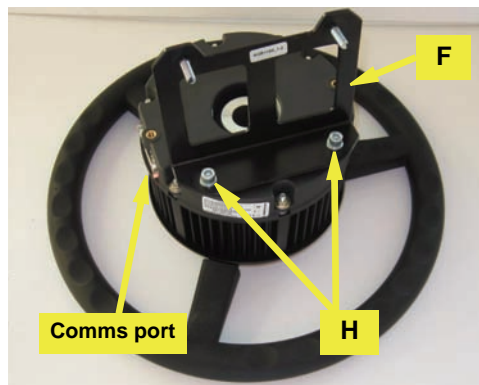

Figure 2d: Installing the upper anti-rotational bracket. See Warning.
- d. Using hardware **H**, loosely attach upper anti-rotational (a/r) bracket **F** to the base of the steering unit. The screws thread into the inserts in the bottom of the unit. Leave the screws loose. Mount the bracket so that with the steering wheel assembly installed and the a/r brackets secured, the comms port is on the right (Figure 2d).